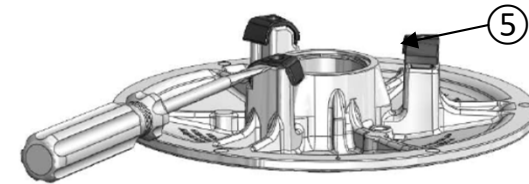

Figure 25
- After removing the cam shoe screws ⑥ (if applicable) with a No. 10 Torx screwdriver, the cam shoes ⑤ may be removed using a flathead screwdriver (figure 25).